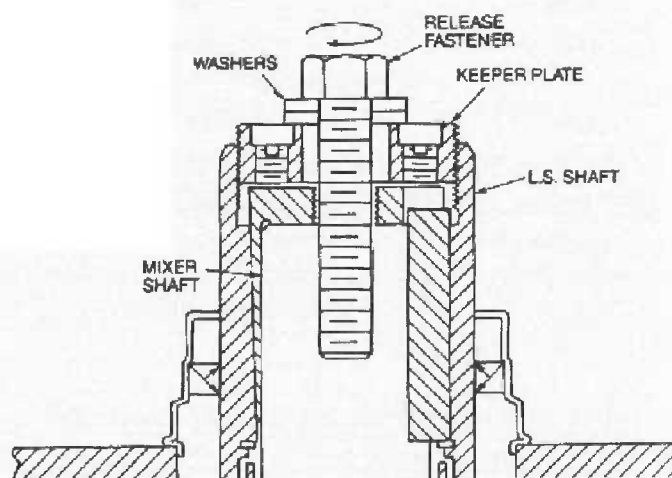

Figure 24 — Removing the unit from installation
- d. Refer to Fig. 24. Thread a hex-head fastener with a flat washer through the keeper plate hole into the tapped hole in the mixer shaft. (See Table 20 below for fastener size recommendations.) Tighten the fastener until the tapered bushing breaks free from the hollow shaft.